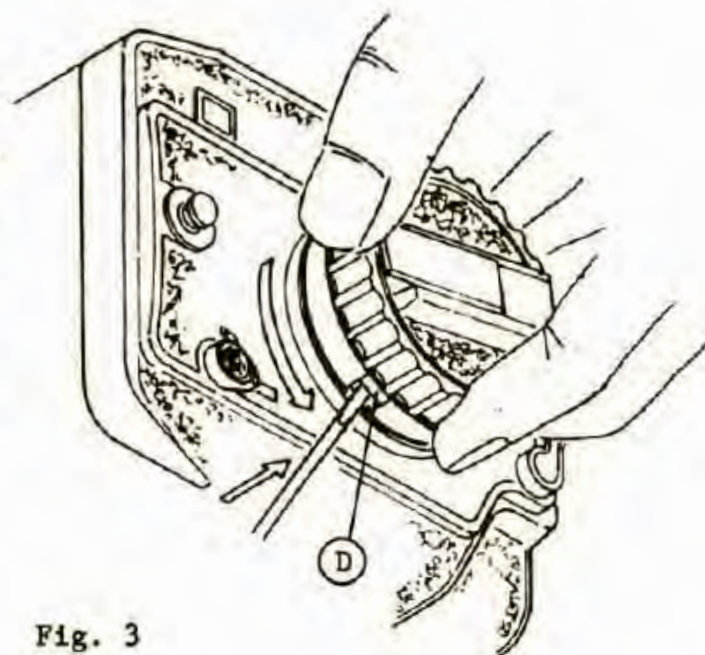

Fig. 3
- 2 While holding the release lever (D) of the knob in the UP position with a small screwdriver or suitable tool, rotate knob counterclockwise and it will disengage from camera body as shown in Fig. 3.